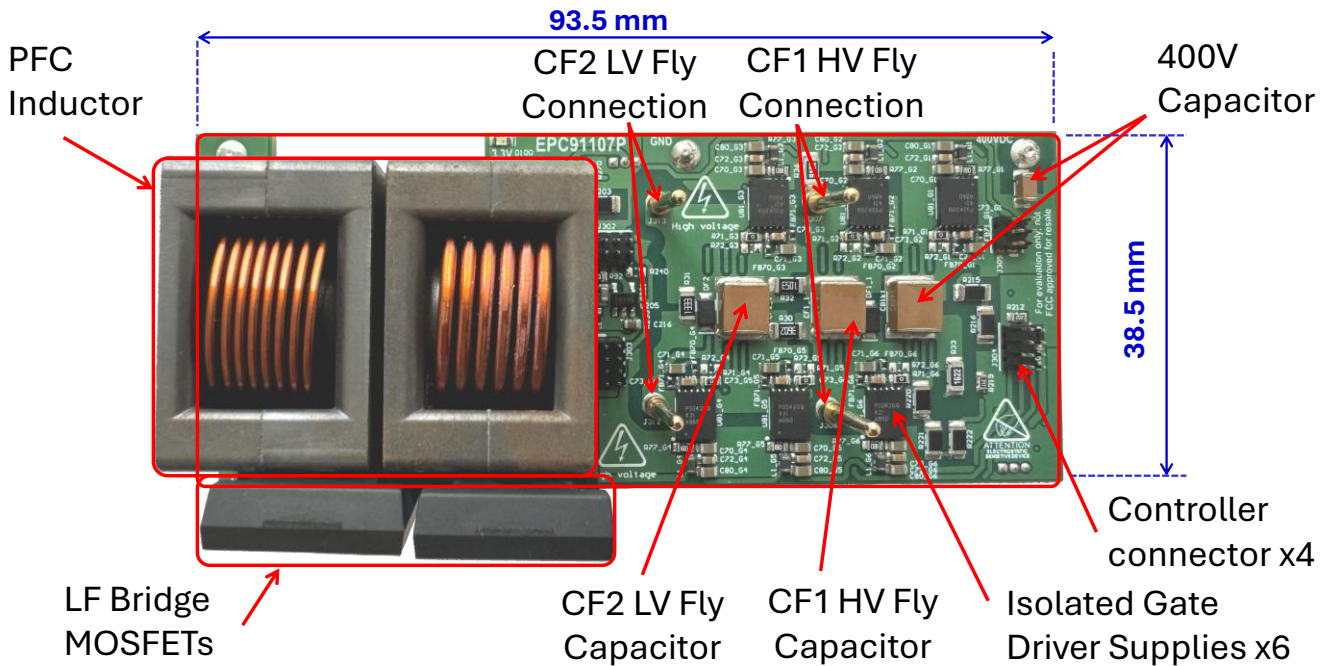

Figure 6: Top view of the EPC91107KIT GaN power board EPC91107P showing the main circuit elements.
- 2) EPC91107P – GaN board assembly that is the complete multi-level totem pole PFC converter and includes connection to the flying capacitor and controller interface board assembly (EPC91107F) as shown in Figures 6 and 7,